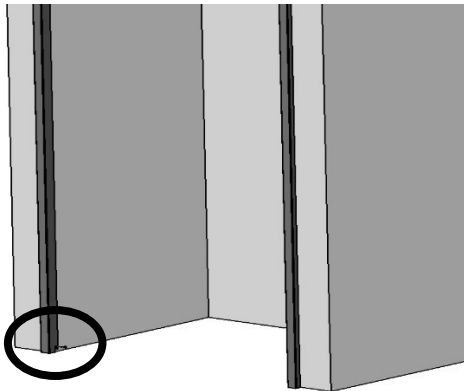
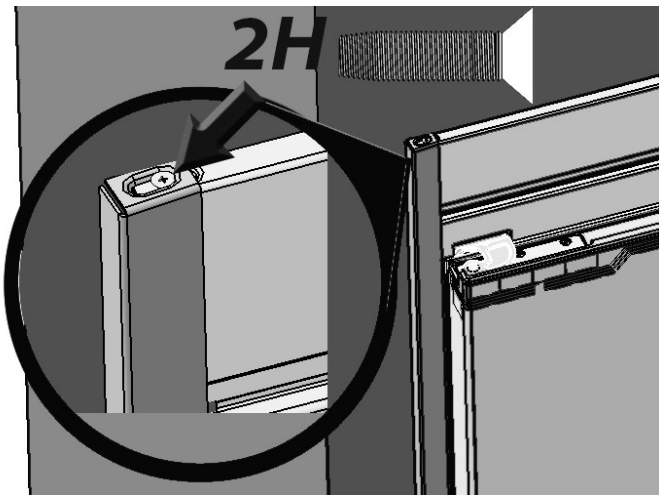

Figure 16
Figure 20
6. Depending on which long screw you received (6H or 7H), screw a long screw in the lower left area (Figure 16) of the front cabinet space, approximately in the location described in Figure 17.
10. a. Place side trims in position by dropping them over the placement screw as seen in Figure 16 and fitting over the top trim (Figure 20).
- b. Fasten 2H screw to each side of top trim (Figure 20).